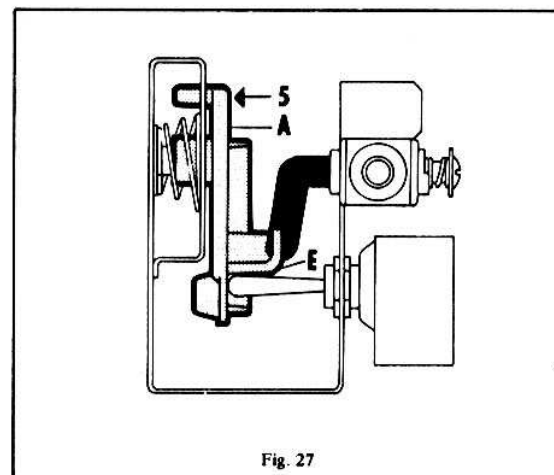

Fig. 27
It is of utmost importance for correct function of the gas/electric control that the gas cock lever is correctly engaged in the slot "E" (Fig. 27) on the plastic driving disc "A" of the gas/electric control mechanism.
5. Release the driving disc which is then pulled inwards by spring action, whereby the lever of the gas cock snaps into its slot "E" on the driving disc "A" (Fig. 27).